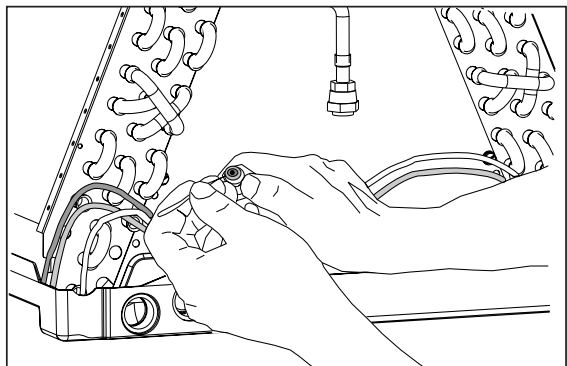

Figure 5. Restrictor Insertion in Distributor Body
6. Insert the new orifice in the distributor body, rounded end down. **(See Figure 5)**